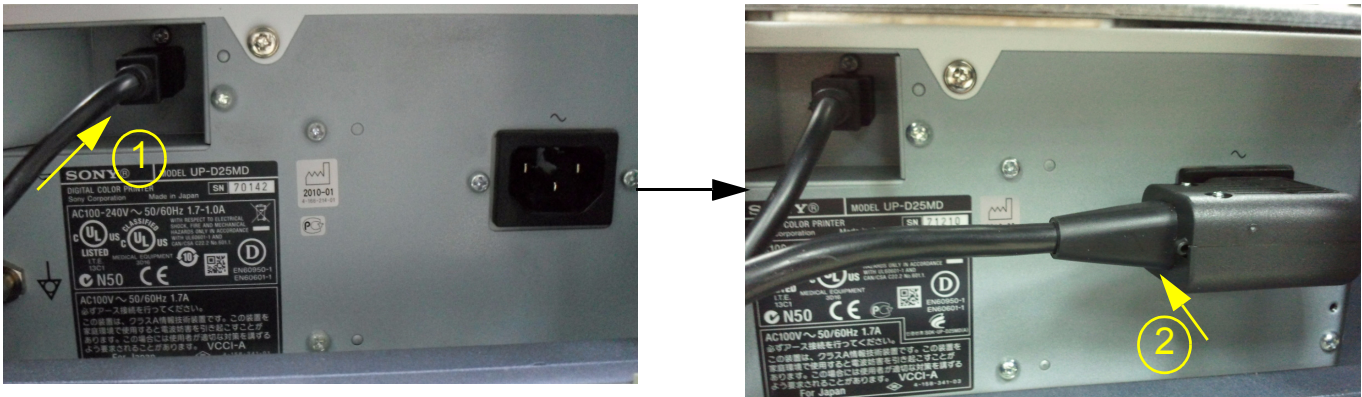

Figure 8-192 Connect COLOR PRINTER CABLE
c.) COLOR PRINTER CABLE - Figure 8-192 on page 8-138